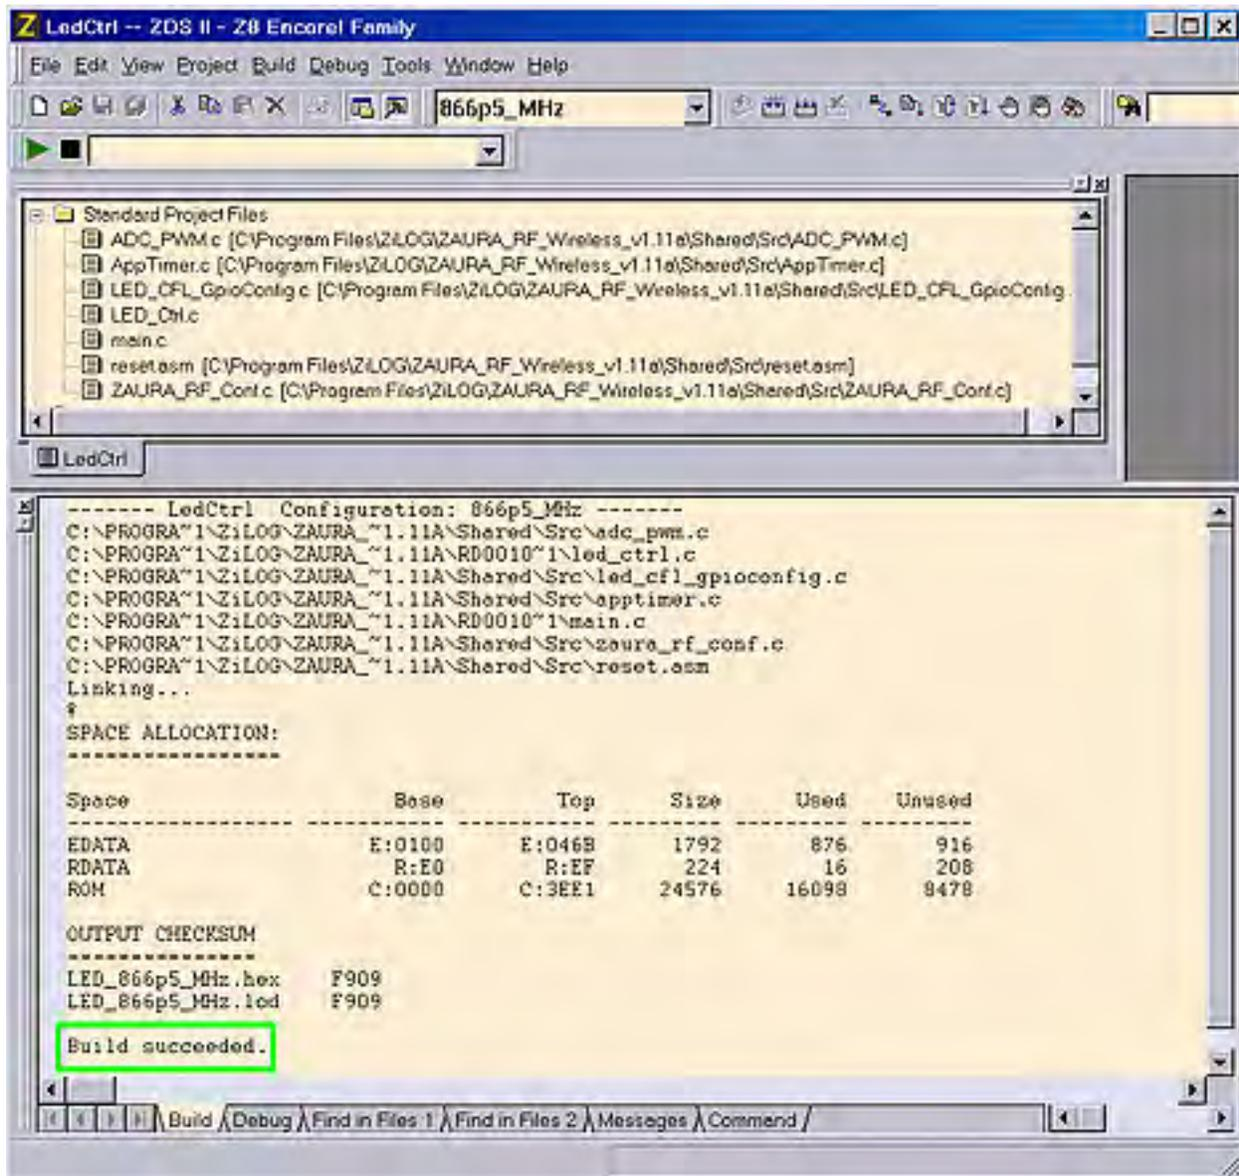

Figure 10. A Successful Build
- When the rebuild is complete, a Build succeeded. message will appear, as highlighted in Figure 10.